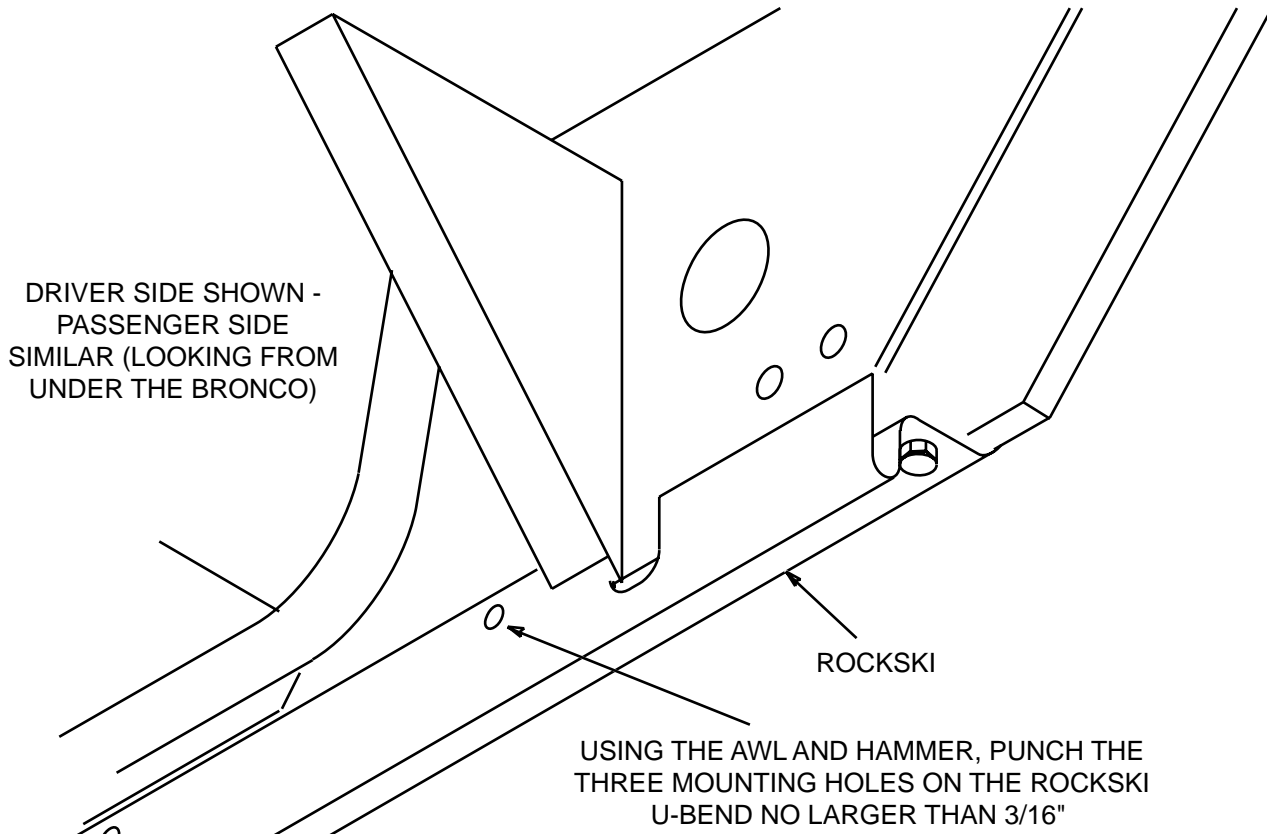

Figure 6
10. From under the Bronco, locate the three mounting holes on the Rockski u-bend. Mark the centers of the mounting using the 5/16" drill bit, DO NOT drill thru! Using the awl, punch the three holes NO LARGER than 3/16". Install #14 truss head screws. See Figure 6.